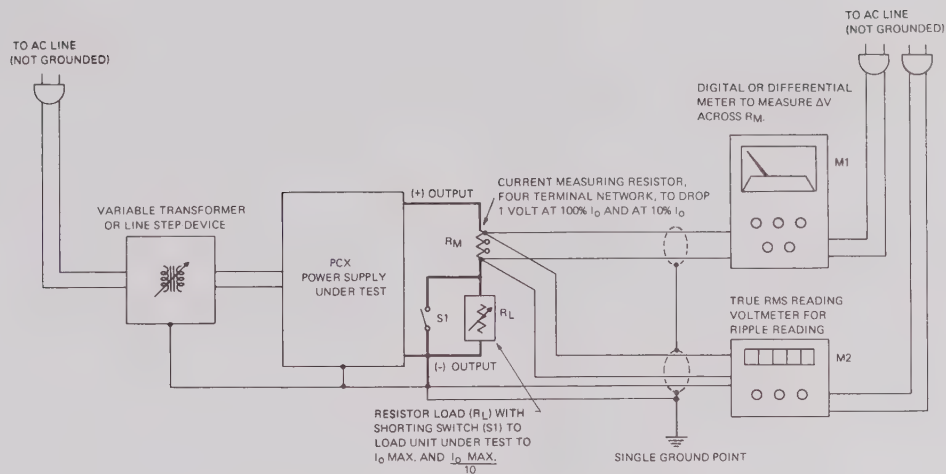

FIG. 5-4 TEST SET-UP FOR CURRENT REGULATION MEASUREMENTS
- c) **MEASUREMENT OF OUTPUT EFFECTS DUE TO AC INPUT SOURCE VARIATIONS.** Set up test setup as shown in FIG. 5-4. Measure output effect by varying the AC line between the specified limits and noting the deviation (ΔV) on the meter across R_m . The output effect due to AC input source variations is specified in percent of the maximum rated output current.
- d) **MEASUREMENT OF OUTPUT EFFECT DUE TO LOAD VARIATIONS.** Retain the test setup shown in FIG. 5-4. Set the AC input source to 115 V AC. Measure output effect by opening and closing the load switch (S1) and noting the deviation (ΔV) on the meter across R_m . The output effect due to load variations is specified in percent of the maximum rated output current (and in μA):
Careful wire dressing and shielding, as well as good signal grounding, are of the utmost importance to get valid results. (Use single ground point as shown in FIG. 5-4.)